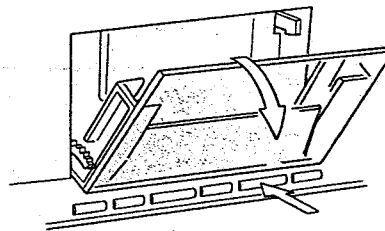

Fig. 4
- 1) Open the cassette lid (See figure 4)